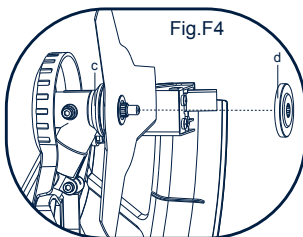

Fig.F4
1)Install the checking ring following the sketch map.(see Fig F4)
2)Put the step surface away from the blade. (see Fig F4 F5)